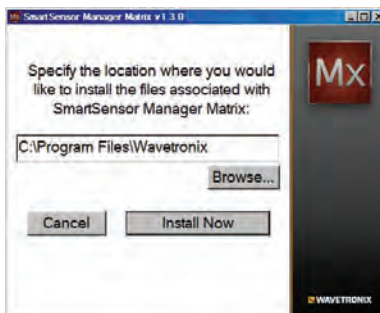

Figure 4.2 – Location to be Installed
- 3 Once you've downloaded the file, double-click on it. Opening it executes a setup program that will copy all the necessary files to the hard drive and place icons in the Start menu and on the desktop of the PC or laptop (see Figure 4.2).